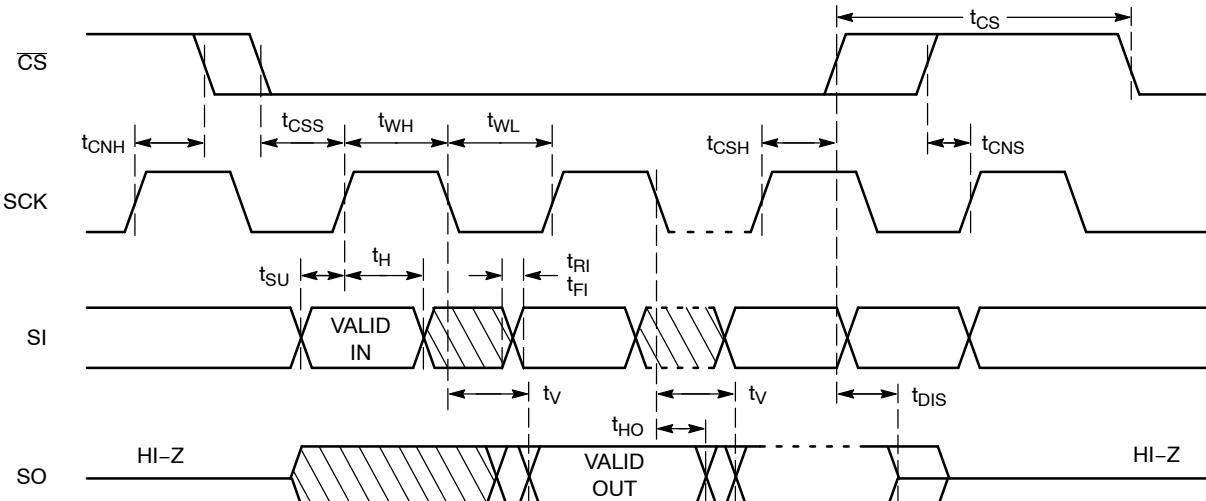

Figure 2. Synchronous Data Timing
7. All Chip Select (CS) timing parameters are defined relative to the positive clock edge (Figure 2). t_{CSH} timing specification is valid for die revision C and higher. The die revision C is identified by letter “C” or a dedicated marking code on top of the package. For previous product revision (Rev. B) the t_{CSH} is defined relative to the negative clock edge.
After a high to low transition on the **CS** input pin, the CAT25080/160 will accept any one of the six instruction op-codes listed in Table 9 and will ignore all other possible 8-bit combinations. The communication protocol follows the timing from Figure 2.